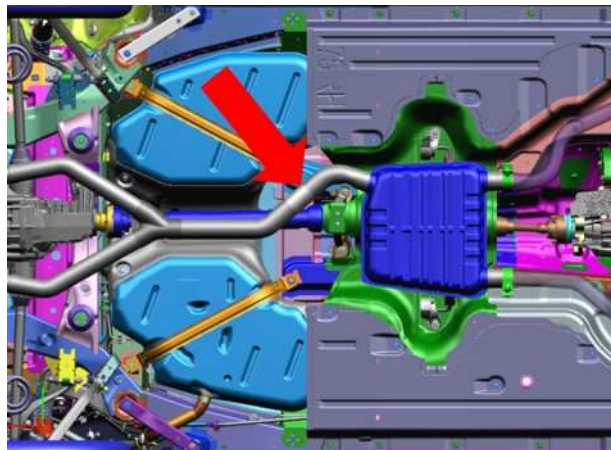

Fig. 15
3. Support the cold end exhaust (Fig. 15) with stands.